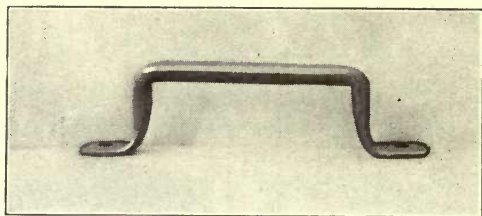

FIG. 19. DOOR PULL.
5. Mark and bend again at BB. In Fig. 19 is shown the completed door pull, the one in the illustration, however, was bent in a vise at AA.